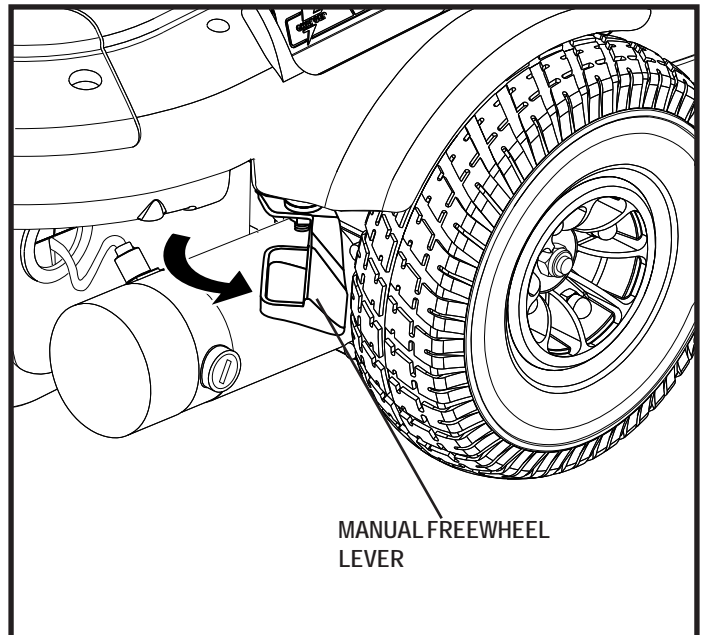

Figure 5. Freewheel Mode (Drive Disengaged)
3. Pull the two levers outward to disengage the drive motors (freewheel mode). **See figure 5.**